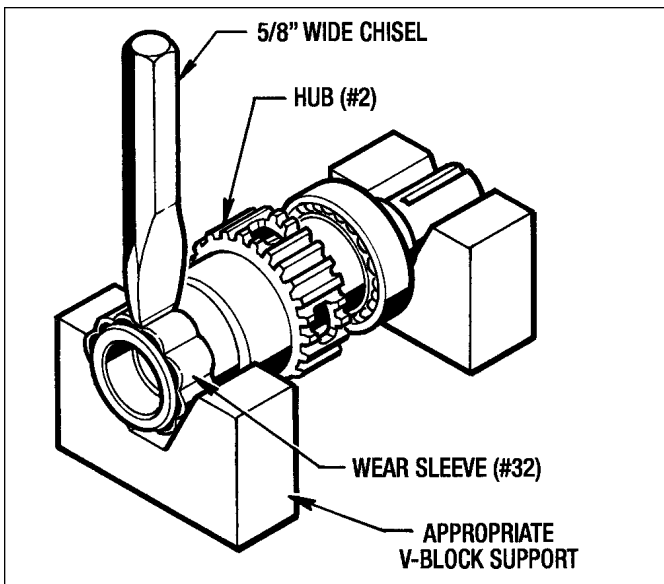

Figure 7.5 - Removing Wear Sleeve (#32)
1. Set the Hub (#2) into appropriate V-Block Supports as shown in *Figure 7.5*. With a 5/8" wide chisel and a mallet, make 6 or 8 notches in the Wear Sleeve (#32). Pry the Wear Sleeve (#32) off the Hub (#2).